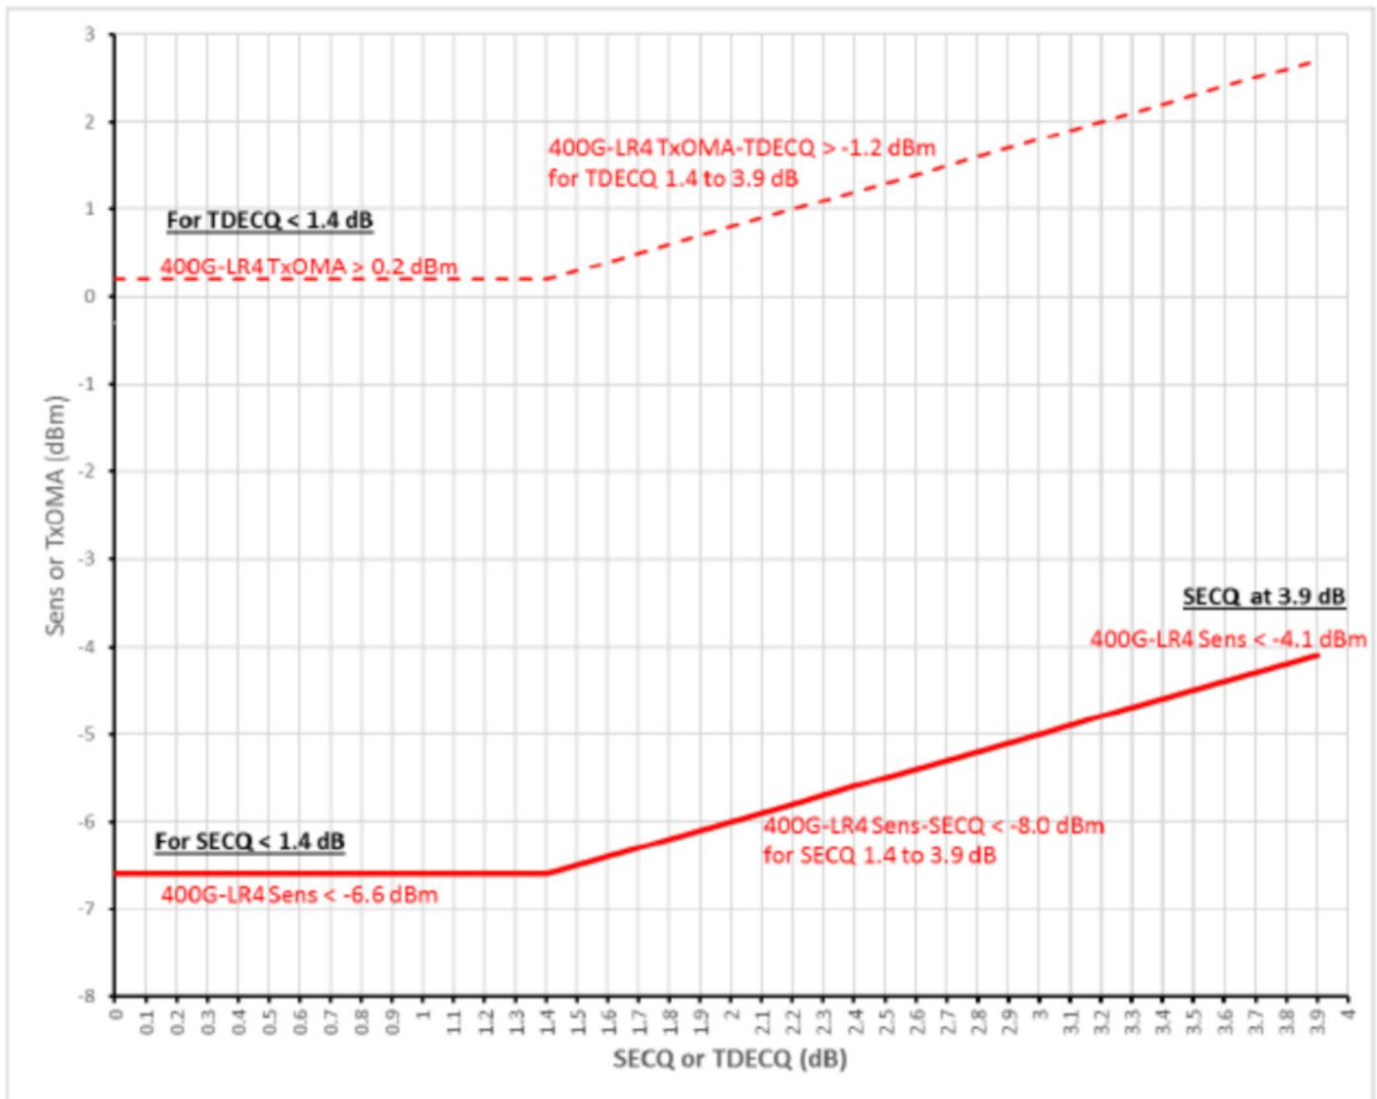

Figure 4. Illustration of Receiver Sensitivity Mask for 400G-LR4
6. Receiver sensitivity (OMAouter), each lane (max) is informative and is defined for a transmitter with a value of SECQ up to 3.4 dB. It should meet Equation (1), which is illustrated in Figure 4.